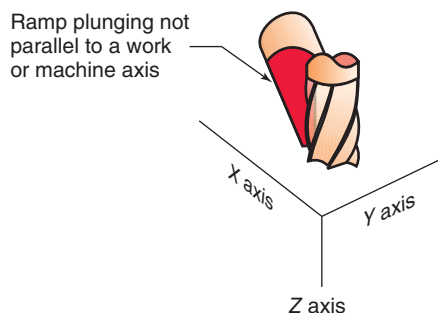

Figure 17-50 What control level can produce this ramp plunge?
8. What type machine movement performs the ramp down into a pocket shown in Fig. 17-50?